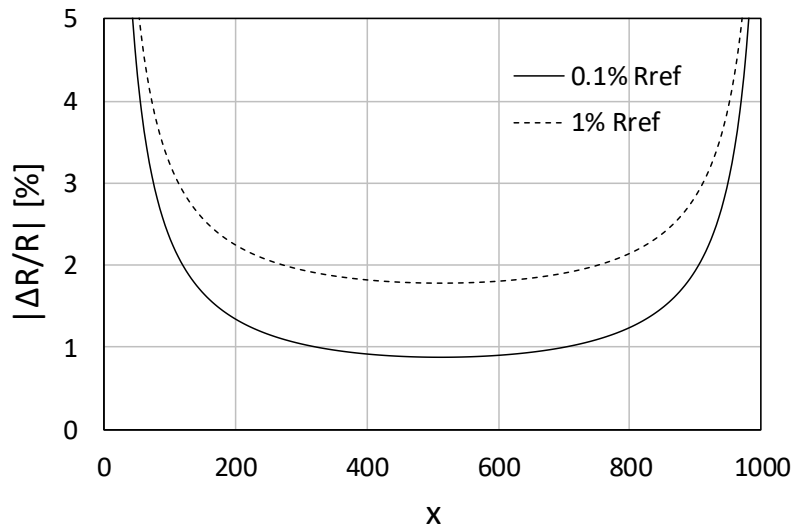

Figure 2. Calculated relative measurement error as the function of the ADC code.
Figure 2 shows this relative error as a function of the ADC code x for 0.1 %, 1 % reference resistor tolerances and ADC error of $\Delta x = \pm 2$.
If a desired measurement range from R_{min} to R_{max} is given, the optimal value of R_{REF} should be found. The error is the lowest possible over the range when it is the same at R_{min} and R_{max} . In this case the distance of the ADC codes x_{min} and x_{max} at the boundaries from the middle are also the same (see equation (6) and figure 2):